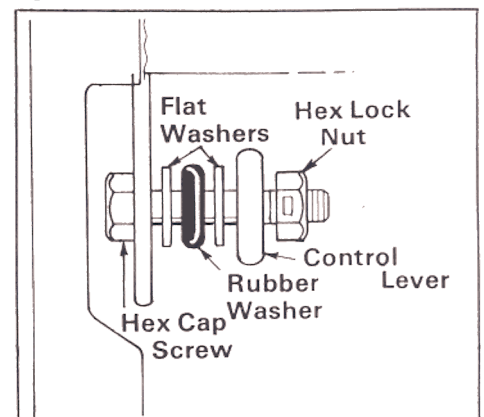

Figure 5
- 3 Attach the control lever to the control panel with hex head cap screw 5/16 x 1 1/4" long, steel washer 5/16", rubber washer, 5/16", steel washer and hex nut 5/16". Do not over tighten. Make sure handle moves freely. (See figure 5.)